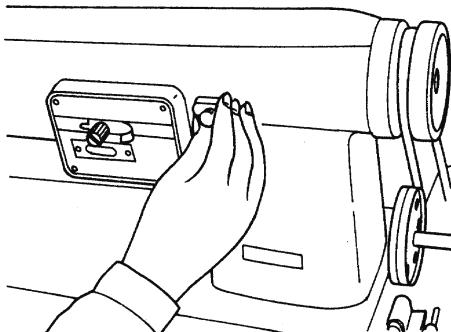

Fig. 13 Lift up the feed regulator knob ③
When the machine is to be changed from zigzag to embroidering, remove the presser foot and change the throat plate. Rotate the pulley with your hand and raise the needle bar to the highest position. ① Lift up the presser foot with the presser foot lever, loosen the presser bar joint rod set screw and remove the joint rod. ② Loosen the throat plate set screw and remove the throat plate and the slide plate. ③ Lift up the stitch length adjusting knob (Fig. 13) and set it. ④ Take out